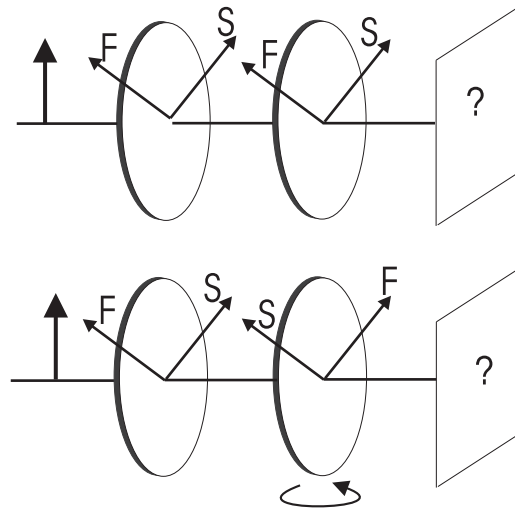

Figure 3: Operations of quarter wave plates with different orientations
6. Perform the experiments sketched in figures 3 and 4: set up two quarter wave plates behind each other and find out what they do with the polarization of light passing through both plates. Then take the second quarter wave plate and turn it around on its post by  $180^\circ$ , so that the beam traverses the wave plate in the opposite direction. Do this for both combinations of input polarization vs. wave plate orientation shown in the figures. What do you expect? What do you observe? Find an explanation for the effects; what is the difference between both experiments? What is the relevance of these two experiments in relation to a “real” optical experiment?
8. Send linear polarized light through two quarter wave plates with their axes at  $45^\circ$  with respect to the plane of polarization and check the output polarization (either case of Fig. 3 or 4). Now change the setup to contain a mirror between the two waveplates which reflects the light at a straight angle ( $> 90^\circ$ ). Check the output polarization again. Explain your observations.